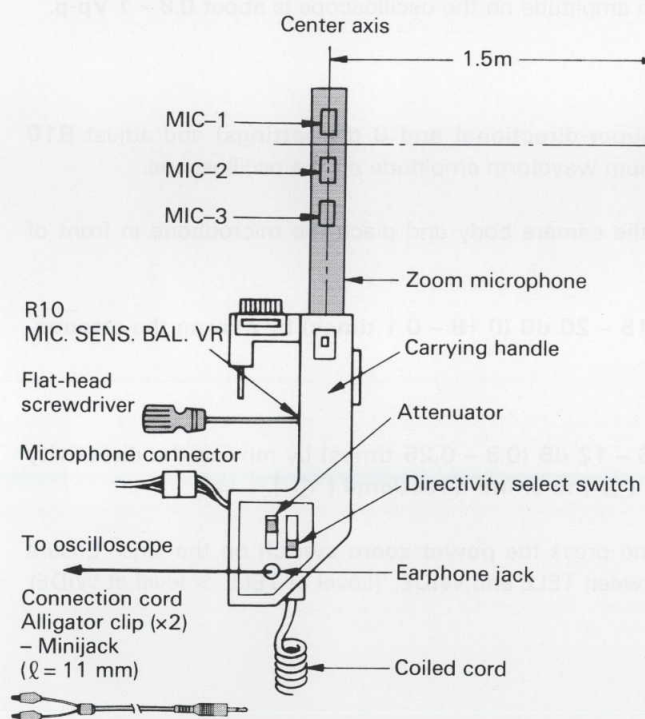

Fig. 5-1-1
- (2) Set up the zoom microphone, sound source equipment and measuring instrument according to Fig. 5-1-1.
- (1) Setup as shown in Fig. 5-1-1 (**with super-directional and 0 dB settings**) and adjust **R10 MIC. SENS. BAL. VR** to obtain a minimum waveform amplitude on the oscilloscope.